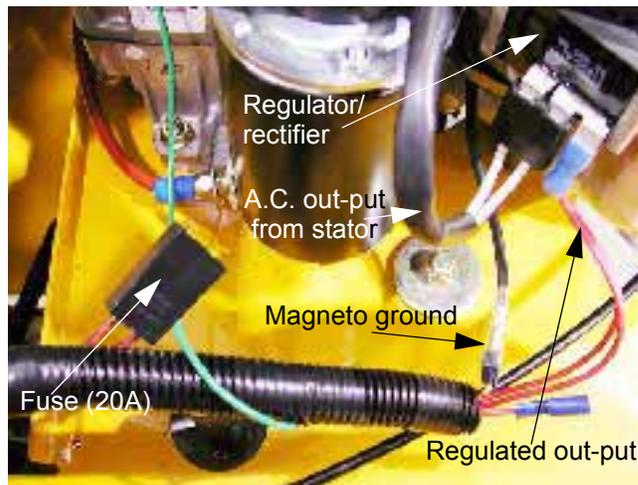

Figure 10.17
10.17. The voltage regulator / rectifier is located near the left front corner of the engine, adjacent to the starter motor. See Figure 10.17.